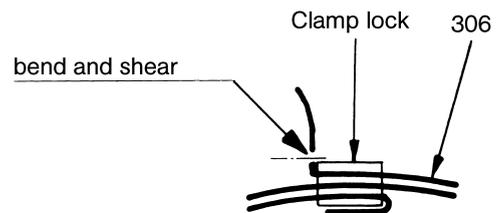

Figure 13: Bending and shearing the clamping band
**Note:** Clamping bands manufactured in Hastelloy cannot be sheared off with the clamping tool. After bending at the clamping band lock, the clamping band must be sheared off using sheet metal shears and the cut edges de-burred (see Figure 13).
- When using the PoK-It II clamping tool, bend the clamping band (306) at the clamp lock after tightening by pivoting the clamping tool upwards, so that the band cannot slip back through the lock. After bending at the clamp lock, the clamping band must be sheared off with sheet metal shears and the cut edges de-burred (see Figure 13).
**ATTENTION** Check that the clamping band is sufficiently bent to prevent it from slipping back through the clamp lock (see Figure 13). If this is not the case, remove the clamping band and replace with a new one.